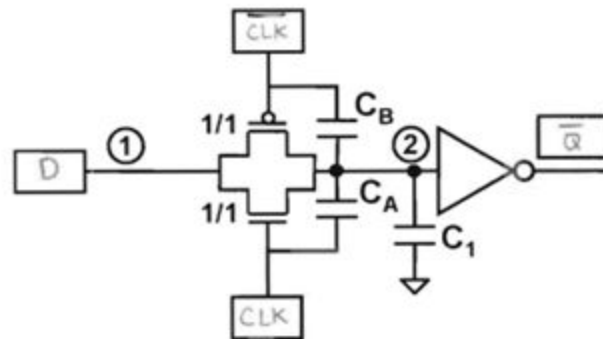

Figure 5: Latch schematic.
**Problem 5.1 (4 points)** For the latch circuit shown in Figure 5, label the boxes  $D$ ,  $CLK$ ,  $\overline{CLK}$ ,  $Q$  such that the circuit works as a **positive transparent** inverting latch.
**Problem 5.2 (2 points)** Is the circuit in Figure 5 a static or dynamic latch (circle one)? Justify your answer.
**Problem 5.3 (6 points)** Suppose the latch is used as the slave stage of an edge-triggered flip-flop and that node 1 and node 2 in Figure 5 are initially at 1.8V and 0V, respectively. Assuming  $R_p = 300\Omega$  for a PMOS device with  $W/L = 1/1$  and  $R_n = 100\Omega$  for an NMOS device with  $W/L = 1/1$ ,  $C_A = 19\text{fF}$ ,  $C_B = 23\text{fF}$ ,  $C_1 = 150\text{fF}$ , and  $t_{pHL}$  for the inverter is 8.9ps, estimate the clock-to-Q delay for the latch using the switch RC model for the transistors.